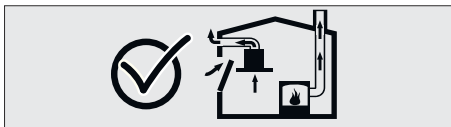

Fig. 4
- Therefore, adequate fresh air ingress must always be ensured. Fig. 4